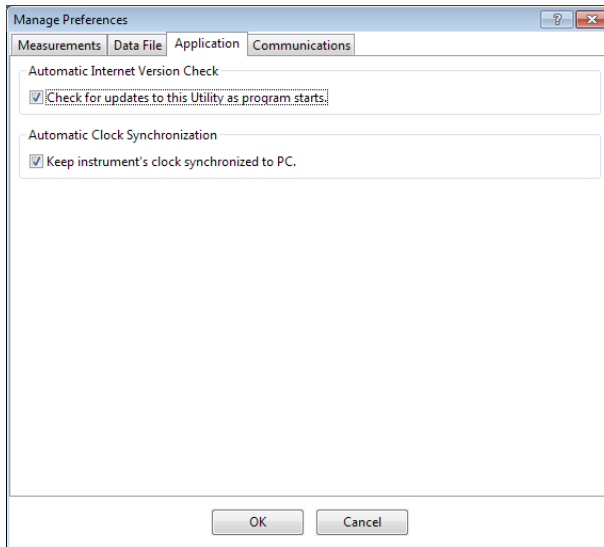

Figure 16 Application tab
• Application Tab (Figure 16):